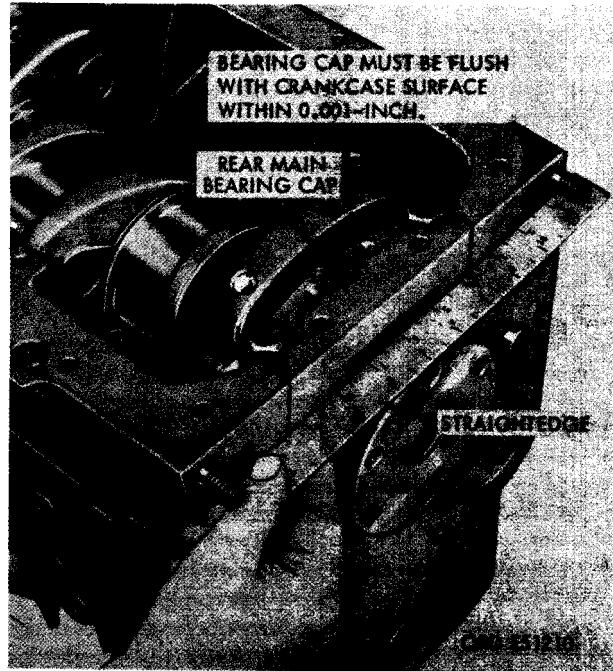

FIGURE 468. CHECKING ALINEMENT OF REAR MAIN BEARING.
b. Install Remaining Main Bearing Caps and Lower Main Bearing Halves. Lower main sleeve bearing halves were installed in their respective main bearing caps during inspection of bearing bores (par. 159b (10)). Install the front two bearing caps in positions shown in figure 304. Refer to figures 304 and 305 and reverse the sequence of instructions to install the five remaining main bearing caps and attached sleeve bearing halves. Refer to figure 468 and check the rear main bearing cap for flush mounting before torquing cap screws.